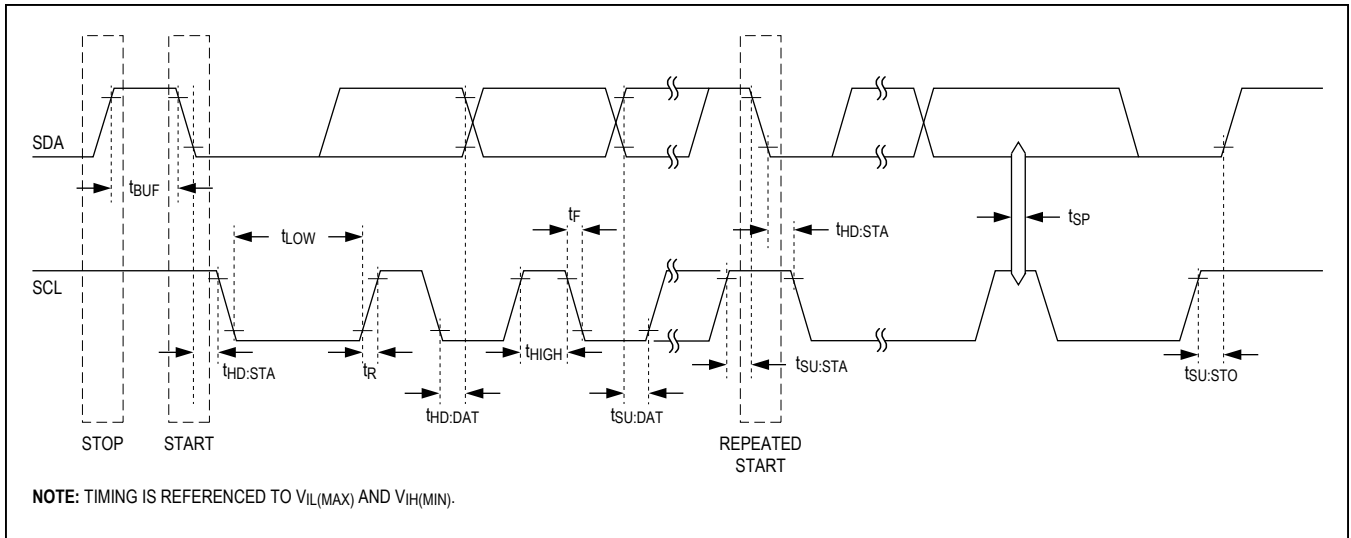

Figure 1. I2C Timing
**AC Electrical Characteristics**(VCC = MIN to MAX, TA = -40°C to +85°C, unless otherwise noted.) (Note 2, Figure 1)
( $V_{CC}$  = MIN to MAX,  $T_A$  = -40°C to +85°C, unless otherwise noted.) (Note 2, Figure 1)